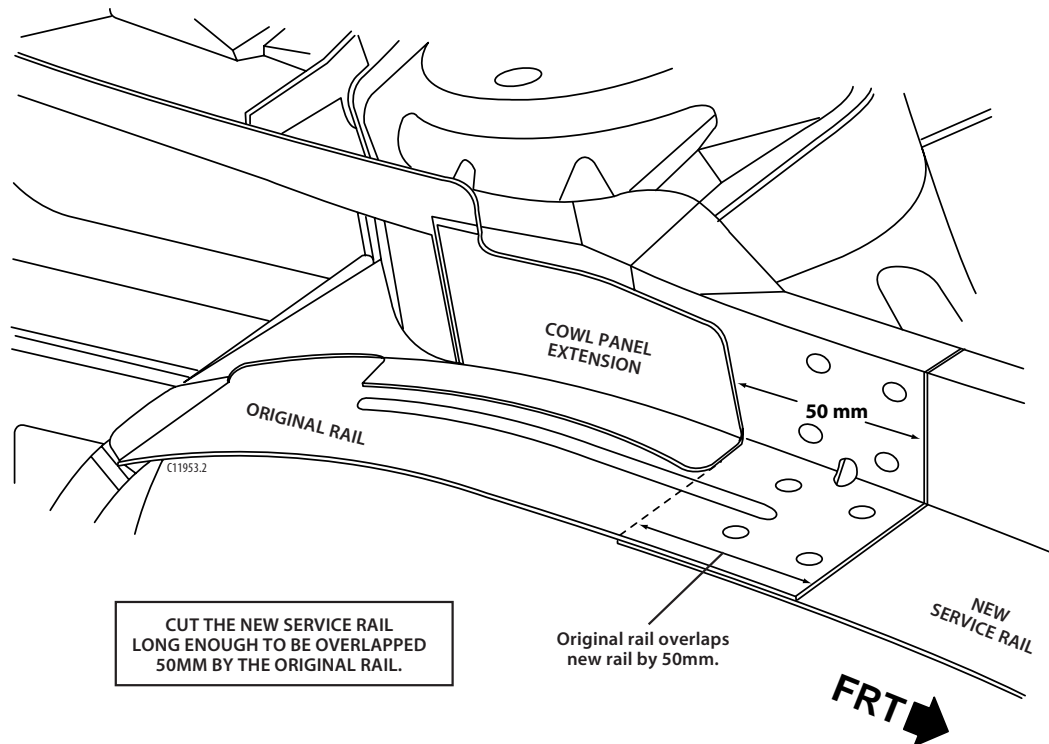

Figure 3-2:
**Sectioning the upper inner rail:** Create a 50mm (2 inch) overlap just in front of the strut tower (figure 3-2). Measure 50mm (2 inches) forward from the cowl panel extension and mark a line. Cut the damaged rail square to the vehicle.
Drill 8mm ( $\frac{5}{16}$  inch) holes for plug welding (figure 3-2). Cut the service rail long enough to overlap the remaining portion of the original rail 50mm (2 inches). Position the service rail under the remaining portion of the original rail to create a 50mm (2 inch) overlap. Check for proper fit and plug weld accordingly.